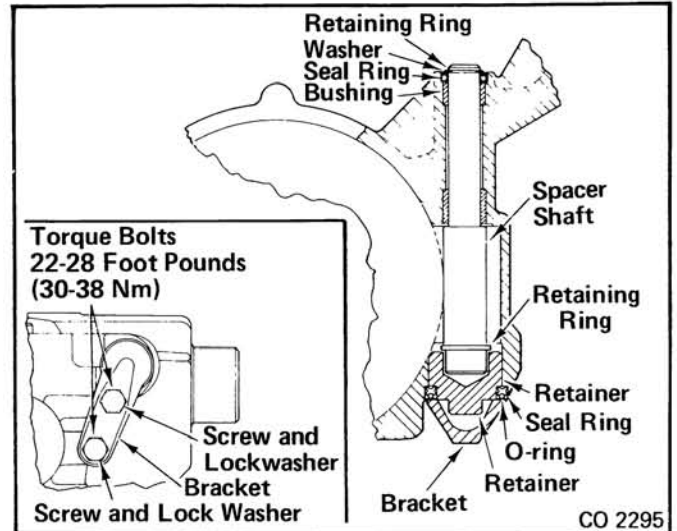

Figure 1.
2. Install seal ring and o-ring in gear housing bore. See Figure 1.